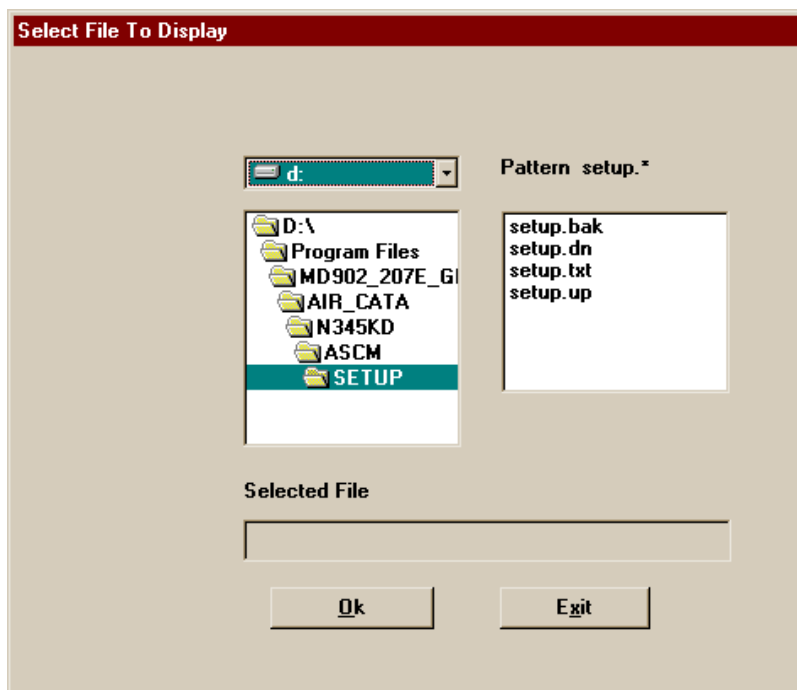

Figure 38. Select File To Display Screen
4. The Select File To Display Screen will become visible (refer to Figure 38).